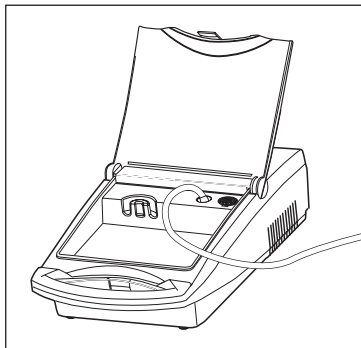

Figure 3/Figura 3
- Connect one end of the nebulizer tubing to the air-outlet connector **Figure 3**.
**NOTE**— During high-humidity weather conditions, condensation (water build up) can occur in the internal hose of the compressor. It is recommended that the compressor be turned on and allowed to run for two (2) minutes before the tubing is attached to the air outlet connector.